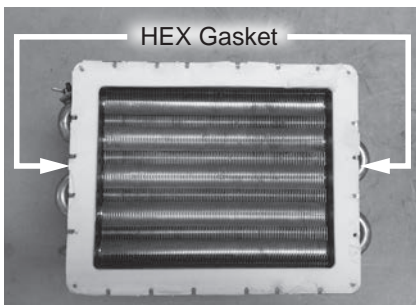

Figure 164 - Replacing HEX gasket
- 64** Locate the HEX gasket provided in the kit. Use a plastic scraper to gently scrape old insulation gasket clean from the primary and secondary heat exchangers. Confirm assembly surfaces are free of any debris or leftover insulation. Install new gasket to primary heat exchanger. See Figure 164.